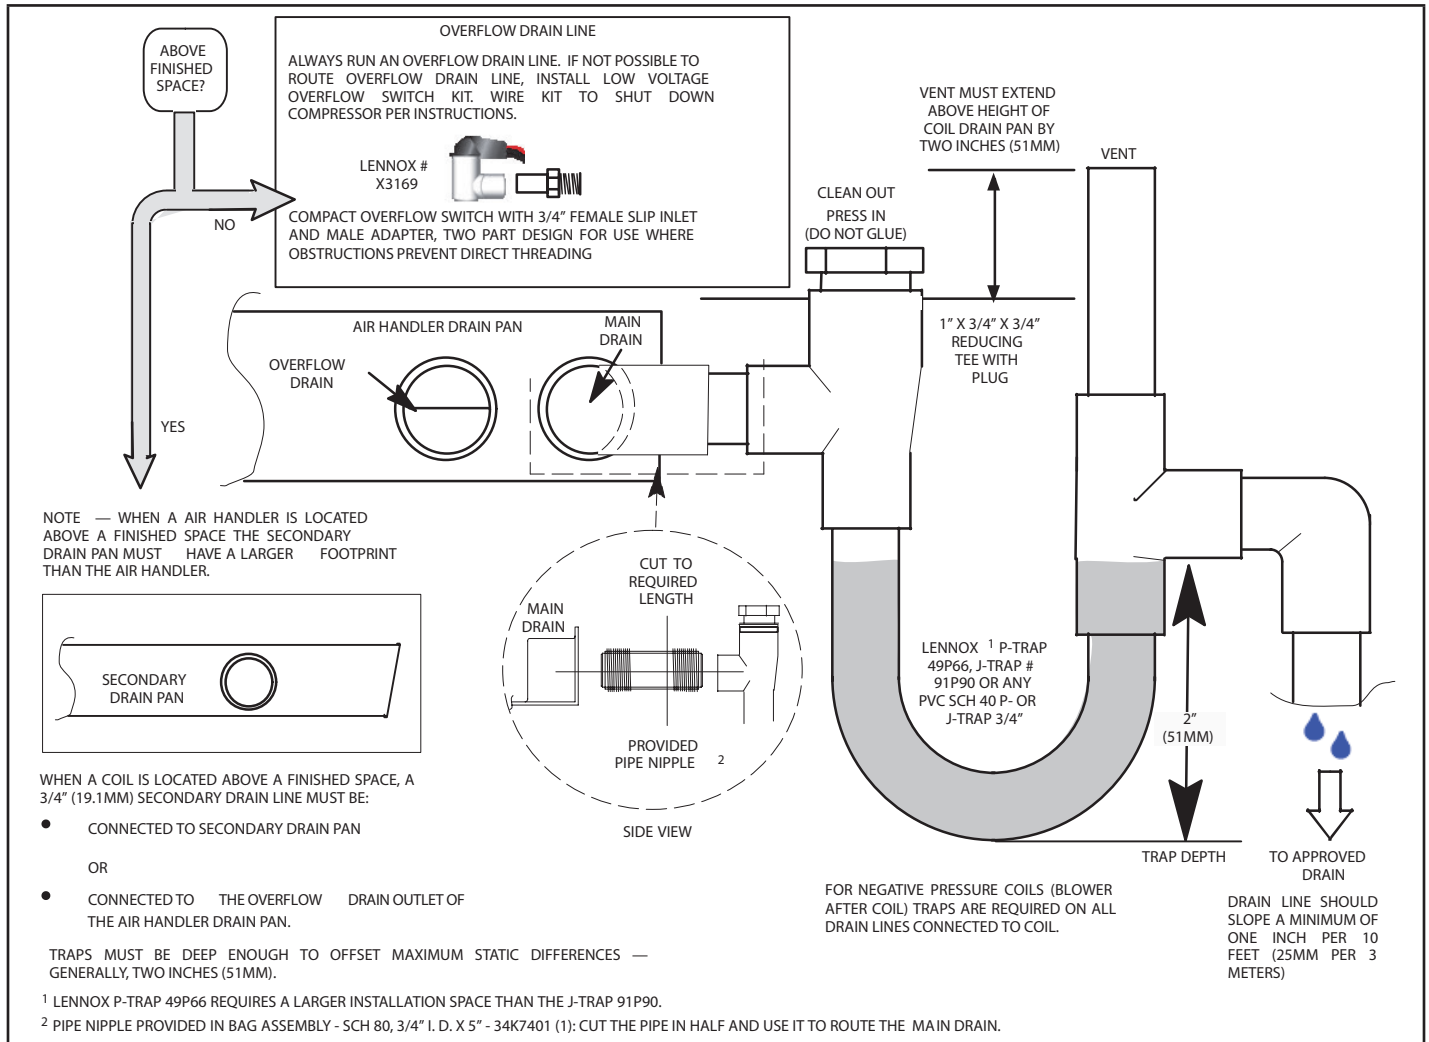

FIGURE 21. Typical Main and Overflow Drain Installations
- 7 - Install a 2" trap in the primary drain lines as close to the unit as practical (see figure 21). Make sure the top of the trap is below the connection to the drain pan to allow complete drainage of the pan.